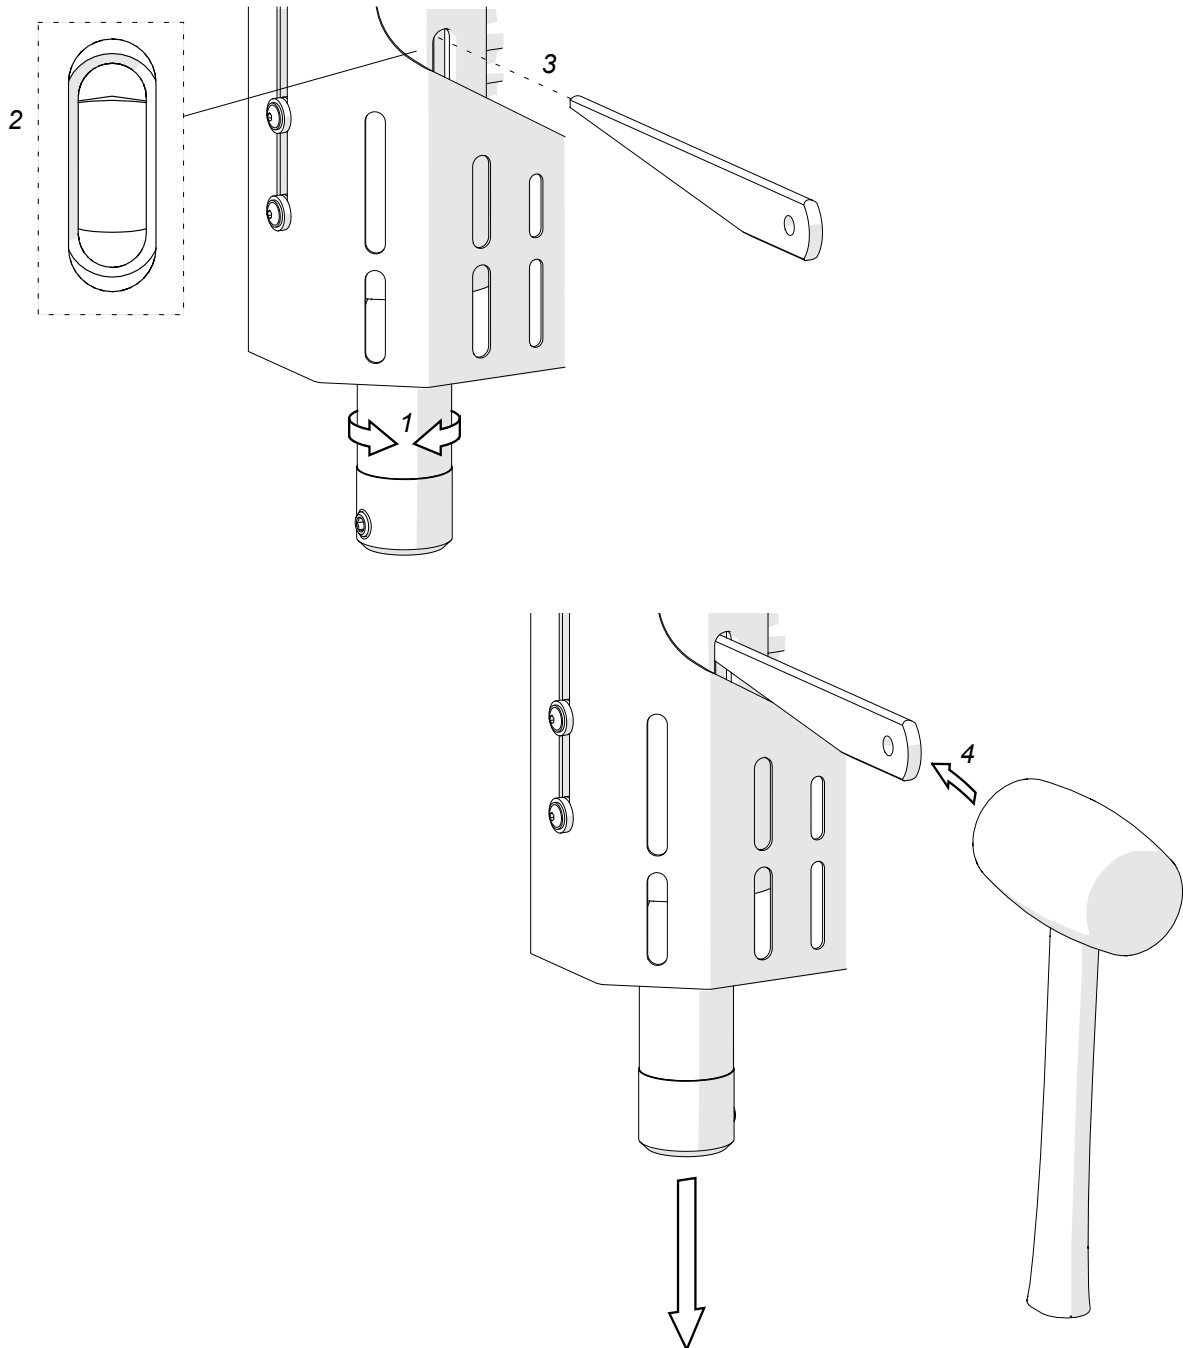

Fig. 3. Removing the arbor, drill bit, or tap chuck
To remove the arbor (drill bit, tap chuck), raise the motor, and then rotate the spindle (1, Fig. 3) in such a way to align the openings in the spindle and gearbox (2). Next, insert the MT3 drift (3) into the opening above the arbor (drill bit, tap chuck), hold the carrying handle with one hand, and then tap the drift using a mallet (4).